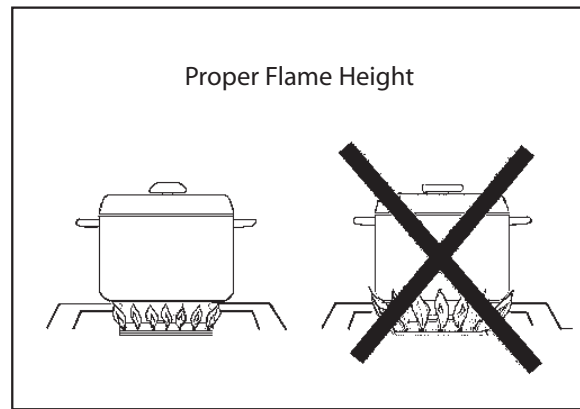

Fig. 04
- For safety reasons the flame must never extend beyond the bottom of the cooking utensil. Never allow flames to curl up the side of the pan (see fig. 04). This will discolor or damage the utensil.